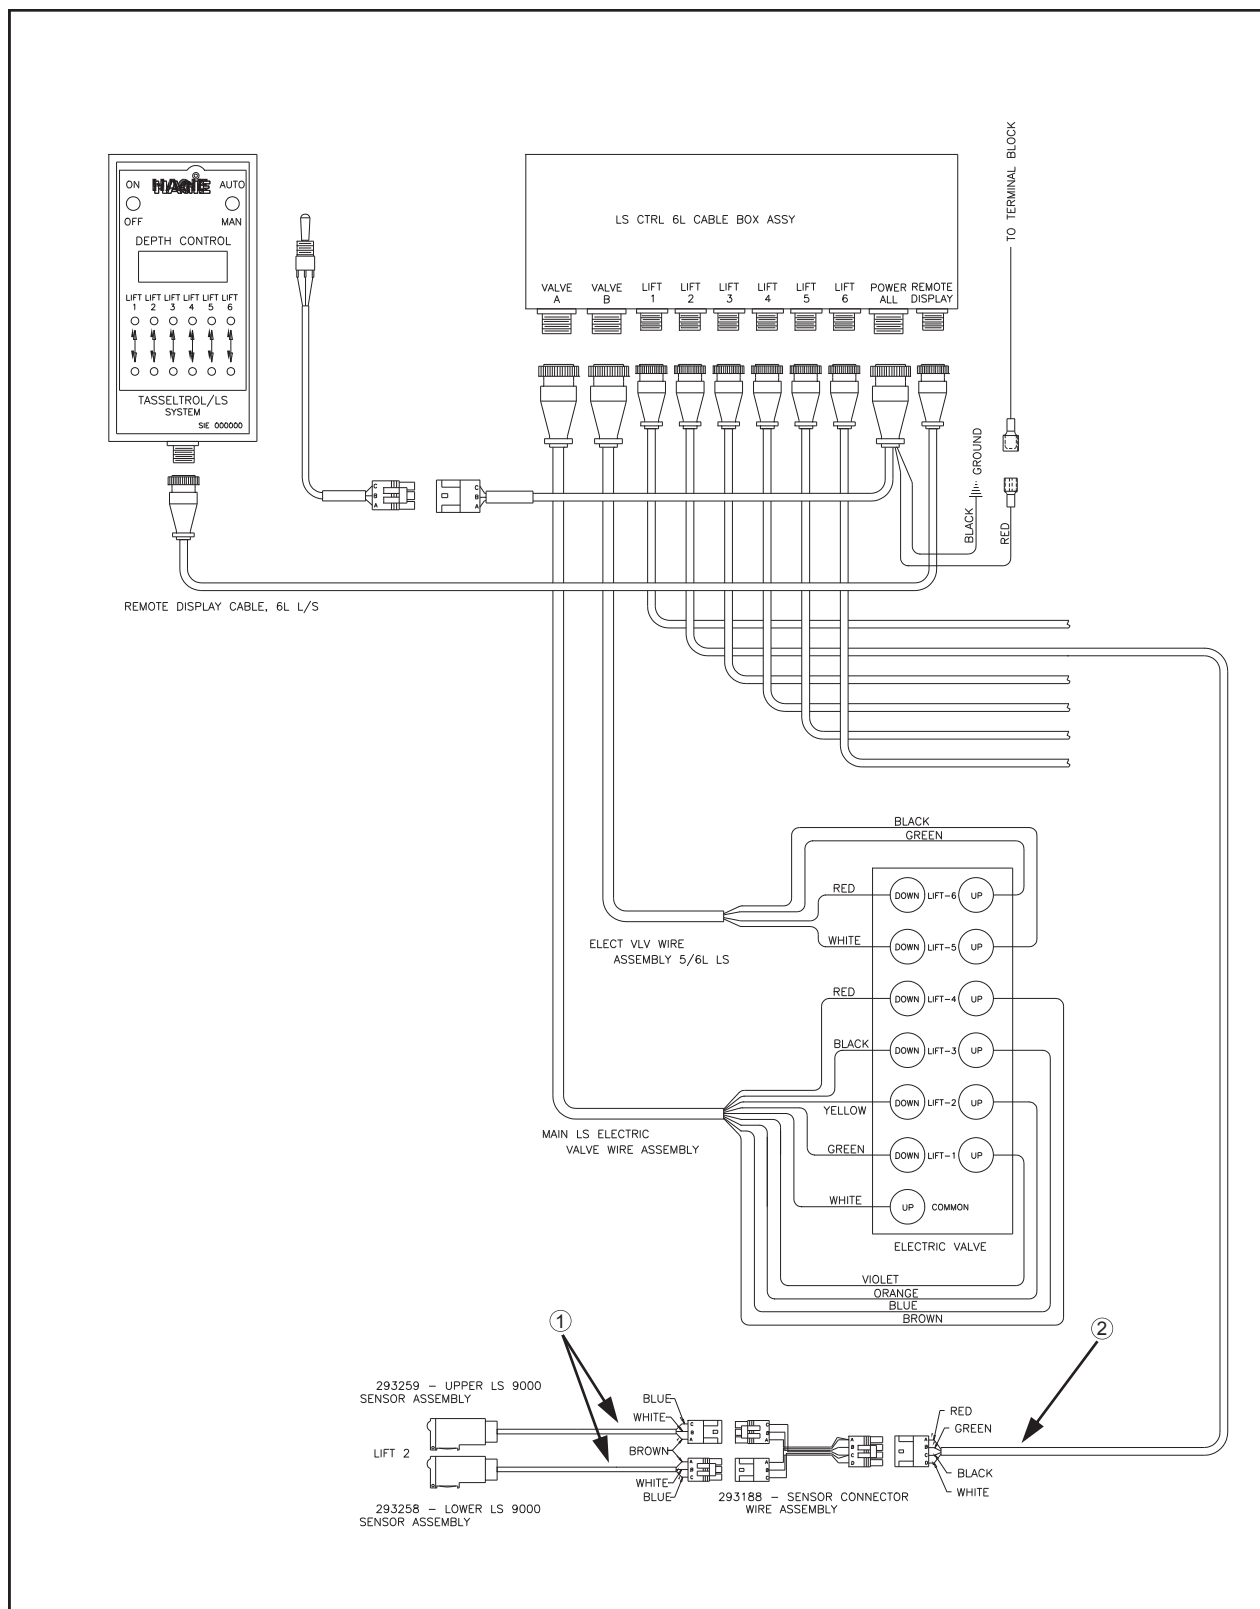

FIG 9.1
| No lights at either photo sensor | Faulty connector cable (See page 118, fig. 9.1, item 2) Faulty RED and/or BLACK wire in connector cable (See page 118, fig. 9.1, item 1) |
| Lights at lower photo sensor | <p>Faulty GREEN wire in connector cable (See page 118, fig. 9.1, item 2)</p> <p>Photo sensor not in line with reflector (See page 34)</p> <p>Faulty BLUE wire in sensor assembly (See page 118, fig. 9.1, item 1)</p> |
| No lights at lower photo sensor | <p>Faulty RED and/or BLACK wire in connector cable (See page 118, fig. 9.1, item 2)</p> |
| Lights at upper photo sensor | Faulty WHITE wire in sensor assembly (See page 118, fig. 9.1, item 1) Faulty BLUE wire in sensor assembly (See page 118, fig. 9.1, item 1) |
| No lights at upper photo sensor | Faulty RED and/or BLACK wire in connector cable (See page 118, fig. 9.1, item 2) |